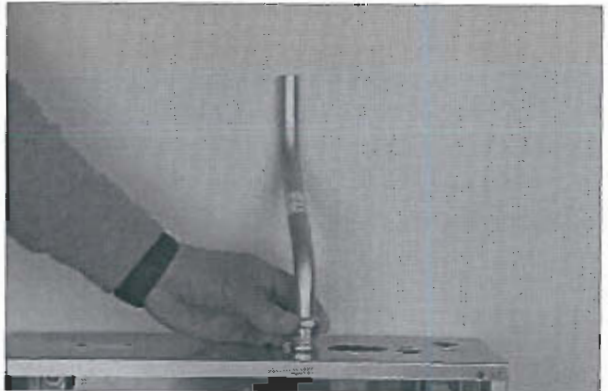

FIGURE 81
- 2. Install Conduit Offset, Part No. 79825, into conduit connector and tighten nut. See Figure 81.